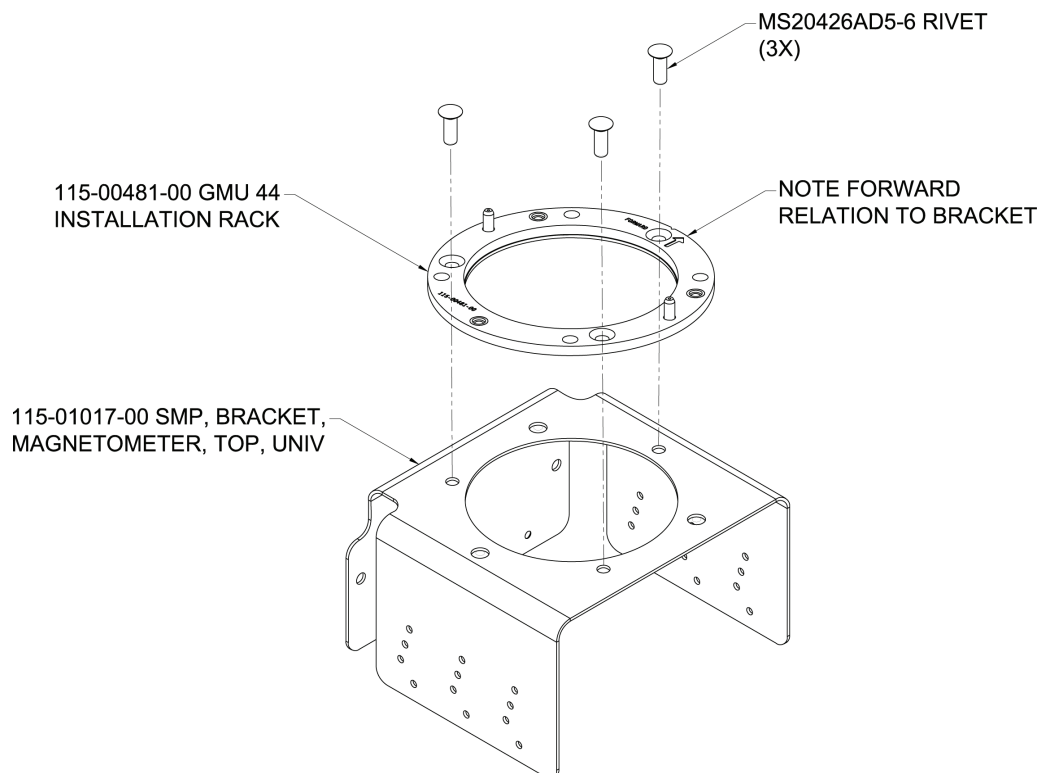

Figure C-9 GMU 44 Installation Rack (ES/ES-P)
5. Rivet the GMU 44 Installation Rack (115-00481-00) to the Top Bracket Assembly (115-01017-00) as shown in Figure C-9.